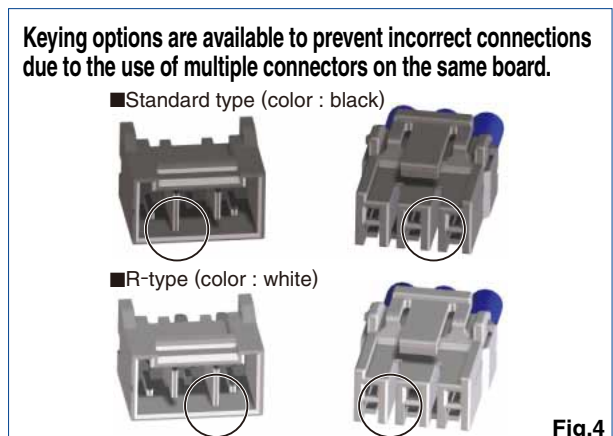

Fig.4
A mechanism has been added to prevent reverse mating and incorrect mating between different number of positions. (Fig.4)
* Keying options were provided to prevent incorrect connections. Keying options prevent incorrect connections due to the use of multiple connectors on the same board. When using identical pin counts, two versions are available with different keying options. (Fig.4)